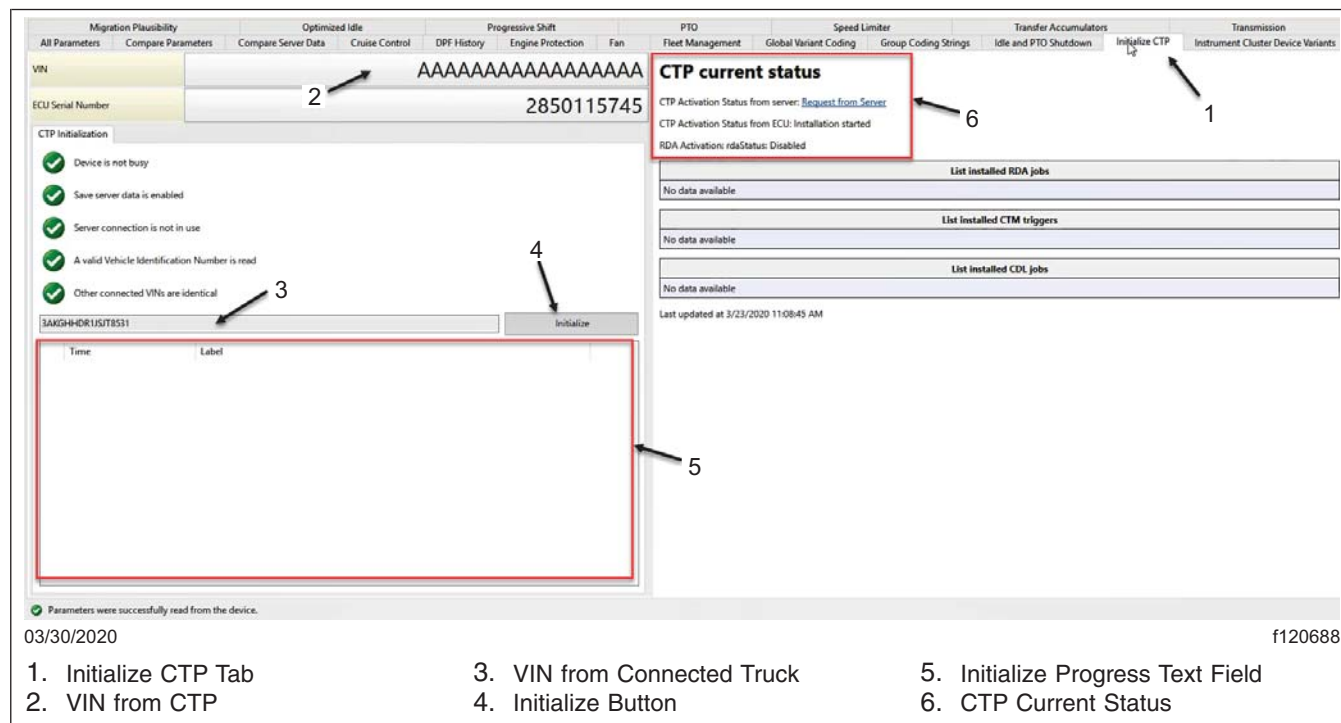

Fig. 2, Initialize Truck Data Center Panel
8. Navigate to "Parameters," allow the parameters to be read, then select the "Initialize CTP" tab. See Fig. 2.